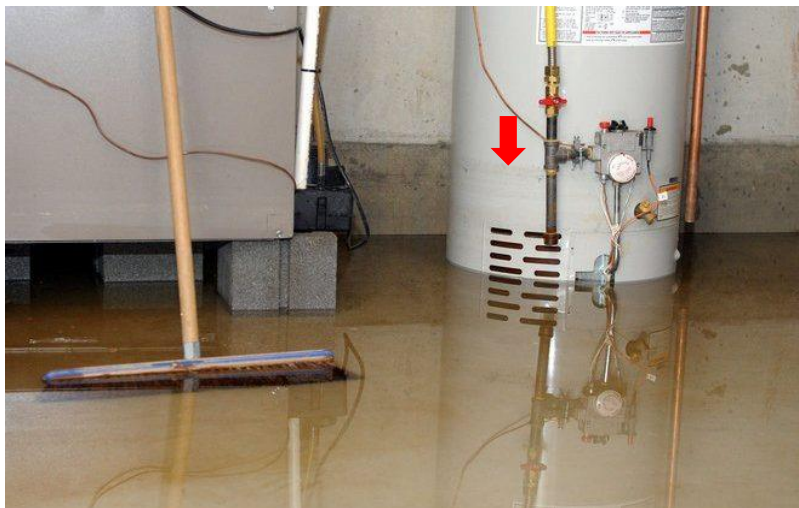

Figure 14. Water Heater in Basement Damaged by Surface Flooding (Water Depth Indicated by Staining on the Tank)
- Water heaters and water conditioning systems (Figure 14);